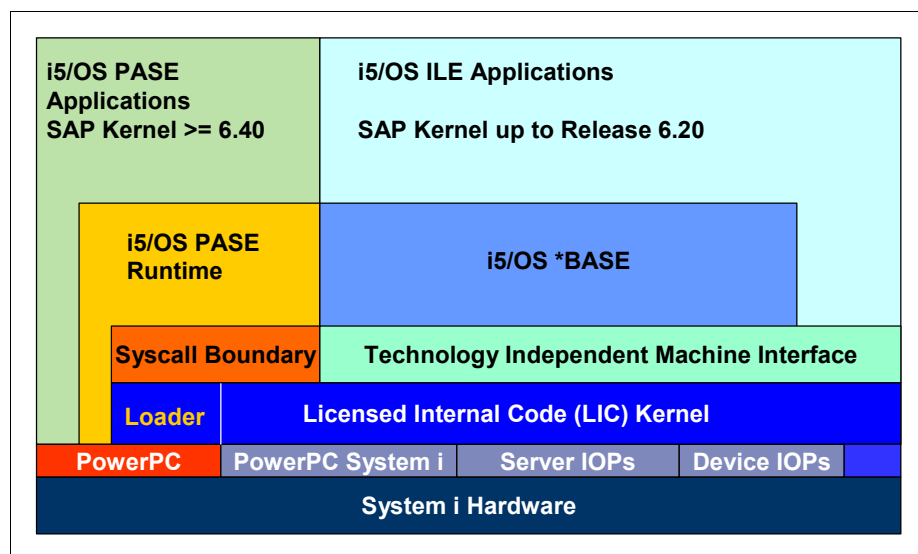

Figure 8-2 The System i layered architecture
System i architecture is based on layers, as illustrated in Figure 8-2.
The right side of Figure 8-2 illustrates the layered architecture of i5/OS. All applications and the base operating system are based on an architecture known as *technology independent machine interface* (TIMI) or more simply referred to as the *machine interface* (MI). If the underlying hardware changes with new models, you only need to adjust the system licensed internal code (SLIC), more simply called the *licensed internal code* (LIC). You do not need to recompile the applications. You may need to retranslate only the internal code representation. This is usually done at “first touch” and does not require user intervention.